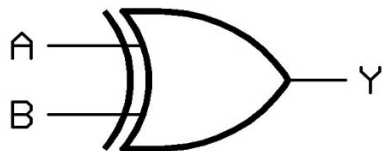

FIG 4
4. The letter X in the **XOR** gate stands for "exclusive". The XOR gate that accepts two inputs will produce output high '1' if one of the inputs is '1' and the other is '0'. Otherwise the output is '0'. Figure 4 represents the symbol of the XOR gate. The logic equation of XOR gate,  $Y = (A \oplus B)$ .